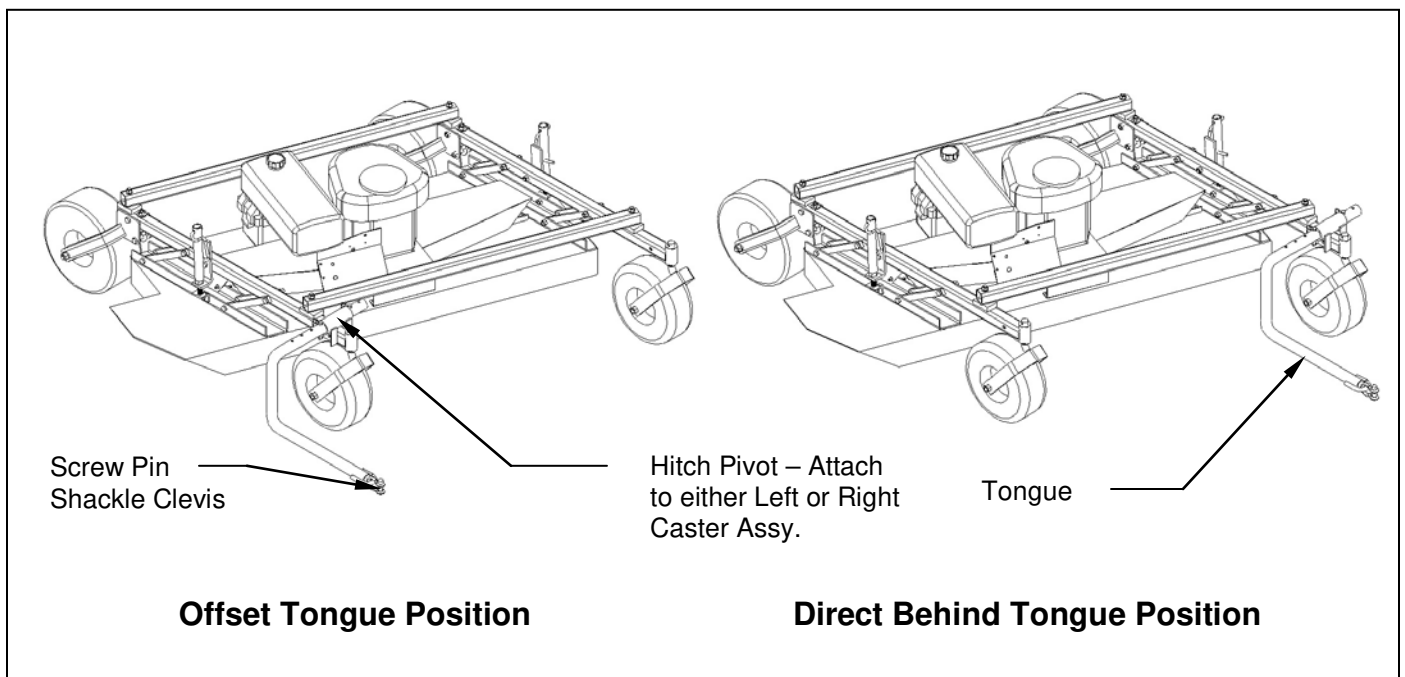

Figure 3. Assembly of Hitch Pivot and ATV Tongue
1. The tongue can be installed either on the left or right caster assembly depending on how the wing mower will be towed. **See figure 3.** Secure the hitch pivot on the chosen caster assembly with the 1/2" x 3-1/2" hex head bolt, lock washer, and nut provided.
Note: When pulling the wing mower directly behind, it is most maneuverable when the hitch pivot is fastened on the left carrier arm. **See Figure 3.** When pulling the wing mower in the offset position, it is most maneuverable to have the hitch pivot fastened on the right carrier arm. **See Figure 3.**